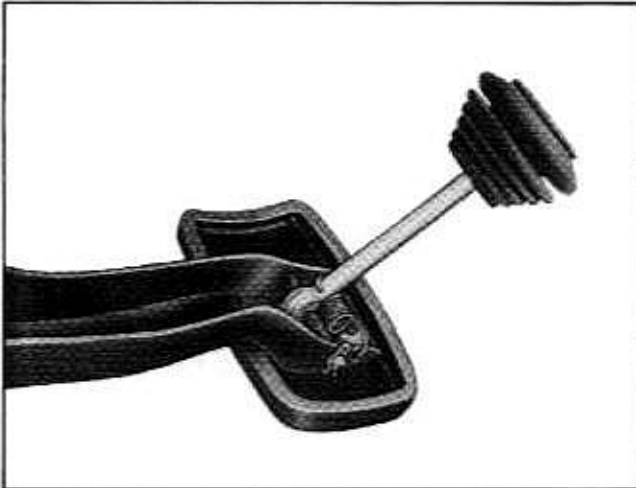

Fig. 5-33 Correct Assembly of Brake Pedal to Push Rod
5. Install push rod in pedal, fastening pin with hairpin retainer. Attach anti-rattle spring around push rod and connect to hole in brake pedal (Fig. 5-33).